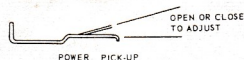

FIGURE 1
4. Power pickups on car working freely (fig. 1)
5. If car runs sluggish or if car hops along the rails, check the power pickups. Close shoe spring to diminish hopping, open shoe spring to relieve sluggishness (fig. 1).